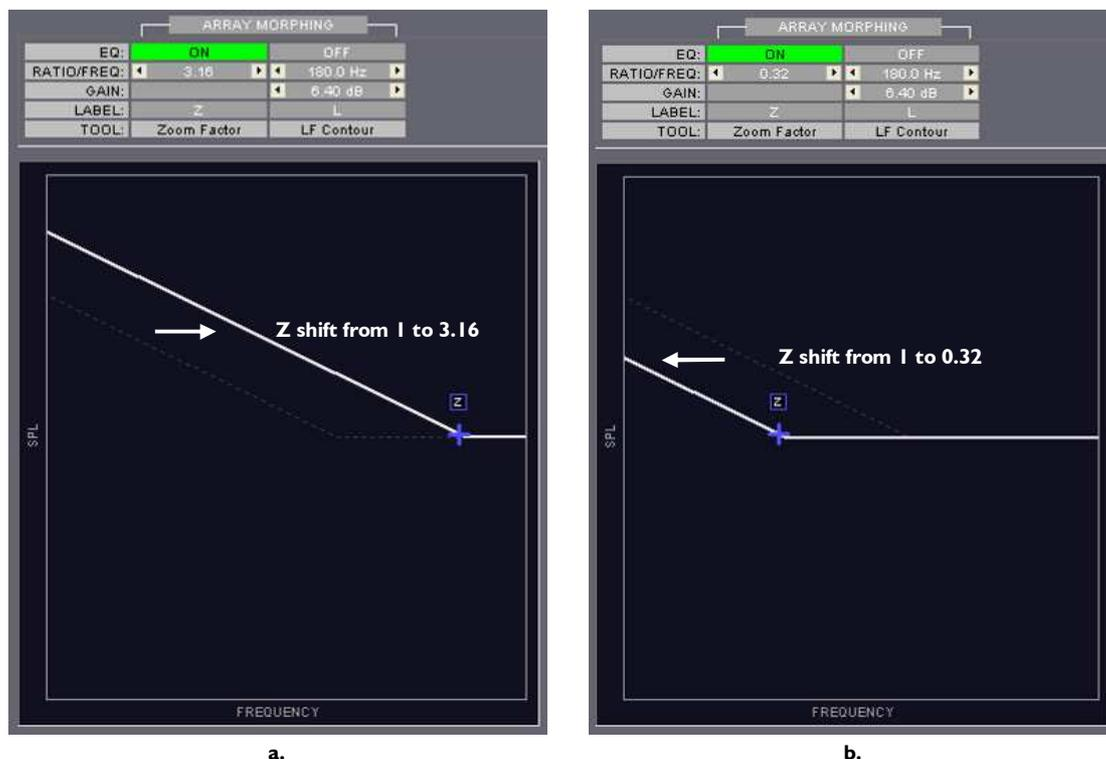

Figure 26: ZOOM FACTOR setting
1. In the **Zoom Factor** menu, click on the **ON/OFF** key and select **ON**. The ZOOM FACTOR tool is turned on and the key color turns **green** (see Figure 26).
- $Z = 1$  is the neutral setting and has no effect on the frequency response curve (dotted lines on Figure 26).